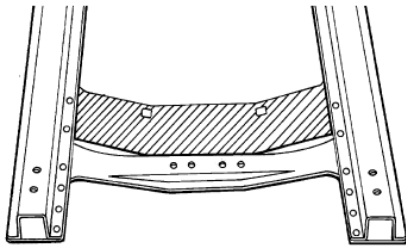
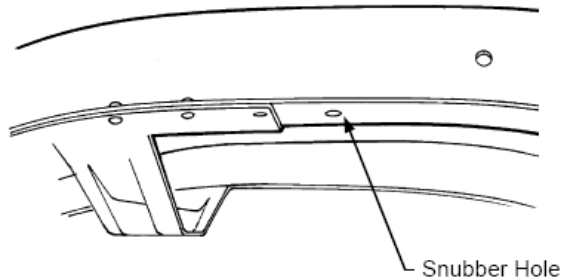

Figure 1- Trim Crossmember
Figure 2- Knee Action Front Crossmember Trim
3. The stock front crossmember must be trimmed at this point. Refer to **Figure 1** to see what to trim off. A cutting torch works best for this; however, a saw could be used. In addition, the flanges on the underside of the frame rails which were attached to the trimmed off crossmember section should be trimmed off. Note also that the frame shown is a parallel leaf spring, solid axle type front end. The knee action front crossmember should be trimmed in a similar manner. See **Figure 2**.